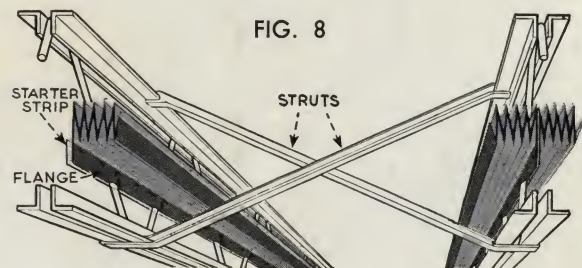

FIG. 8
2) Staple two strips of unopened insulation in place on both sides of second joist. See Fig. 8.